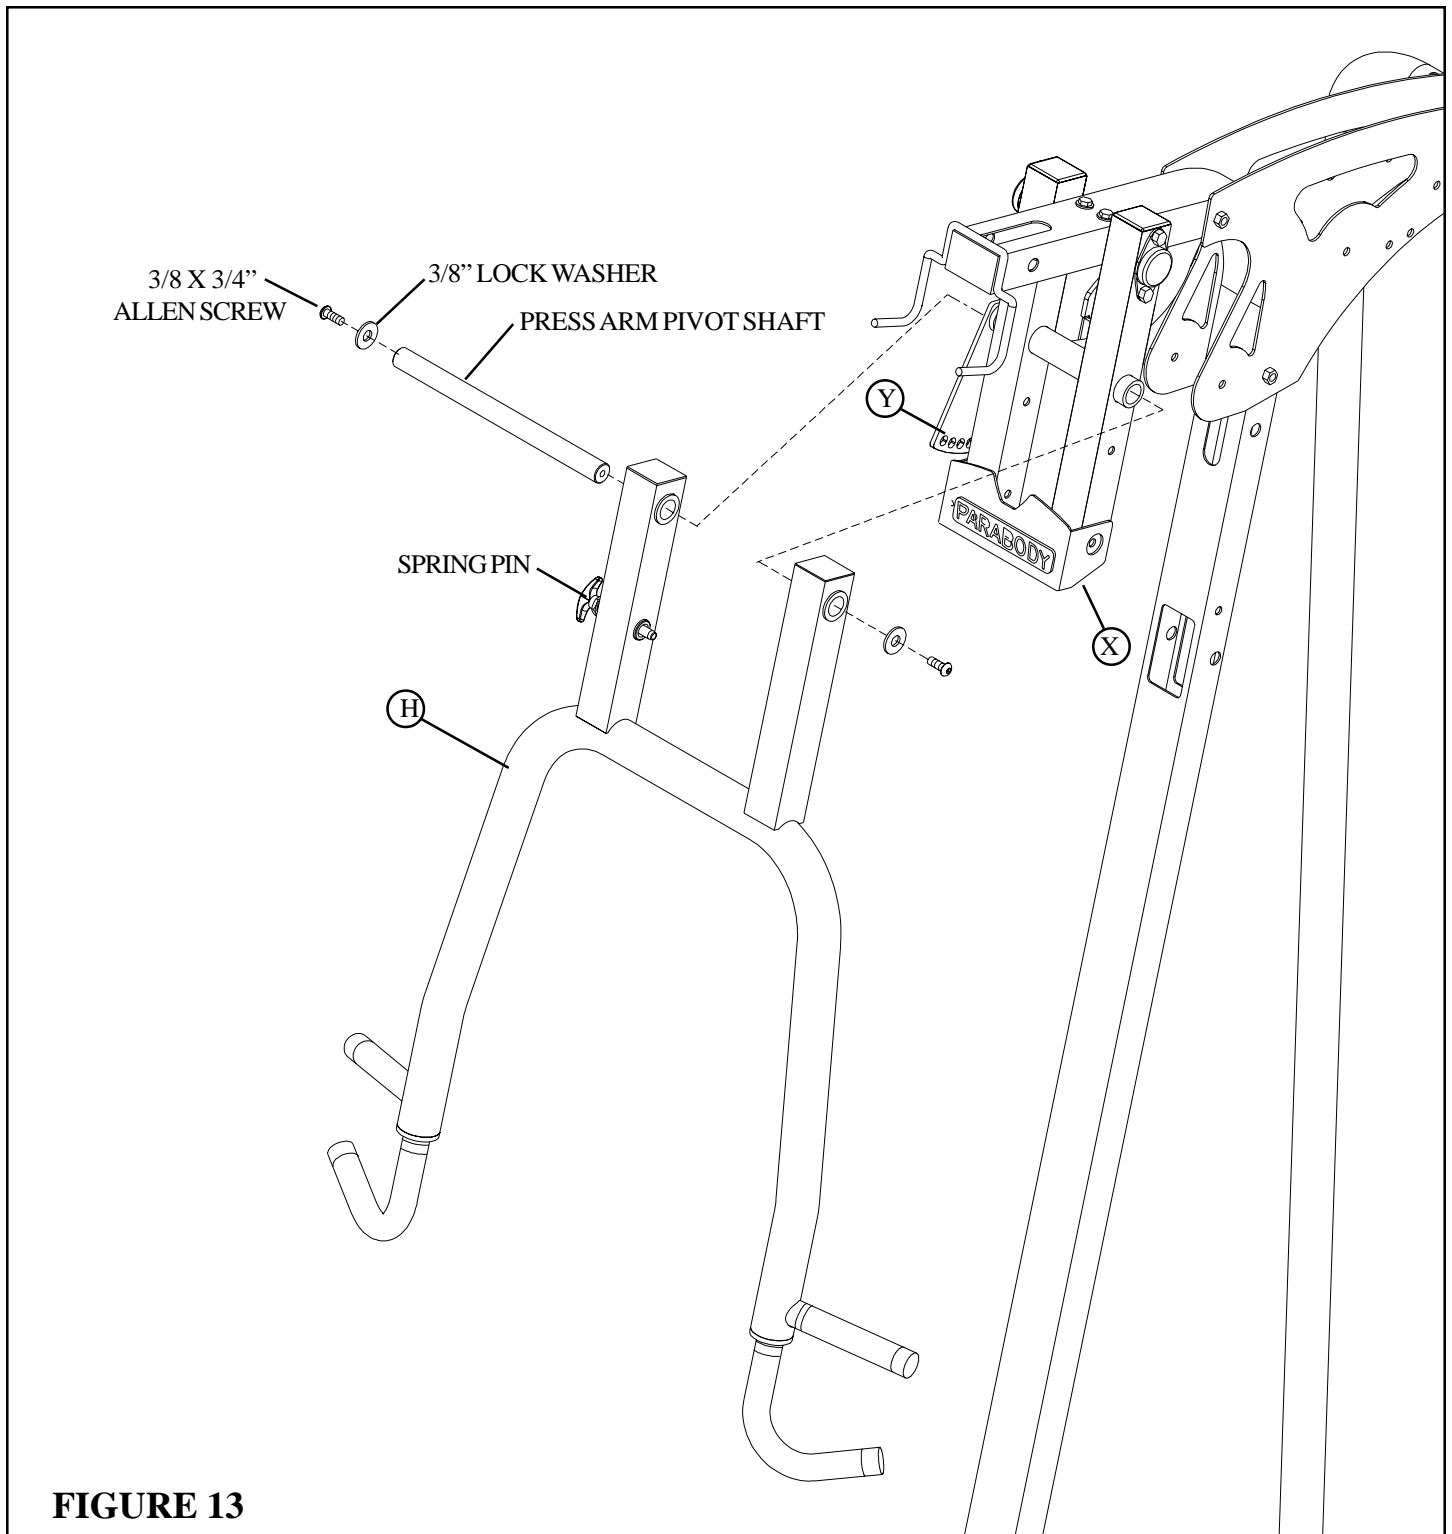

**FIGURE 12**
- Disassemble one of the BEARING BLOCKS from the PRESS ARM SUPPORT FRAME (X) and remove the PRESS ARM SUPPORT PIVOT as shown in FIGURE 12.
- Insert the PRESS ARM SUPPORT PIVOT thru the PRESS ARM SUPPORT FRAME (X) and the FRAME (A). Assemble the BEARING BLOCKS to the PRESS ARM SUPPORT FRAME (X) as shown in FIGURE 12.
- **SECURELY** tighten the two 5/16 X 1/4" SET SCREWS (PRE-INSTALLED) on the FRAME (A) as shown in FIGURE 12.
- **SECURELY** assemble the PRESS ARM ADJUSTMENT PLATE (Y) to the PRESS ARM SUPPORT FRAME (X) using two 3/8 X 1" FLAT HEAD ALLEN BOLTS (16) as shown in FIGURE 12.